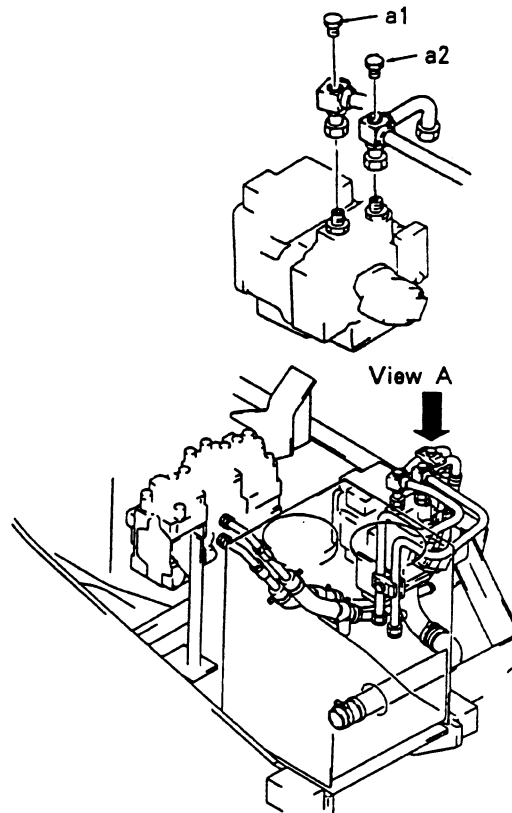

Fig. 4 Fitting position of main circuit pressure gauge
(1) Fitting position of main drive circuit pressure gauge (See Fig. 4.)